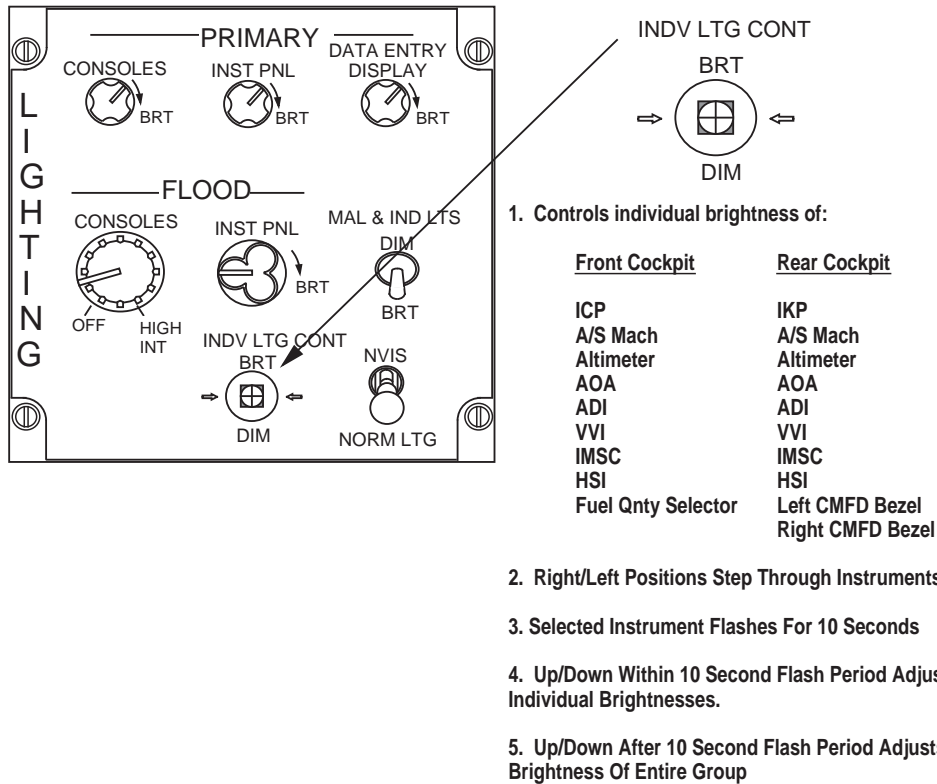

Figure 1-80 Individual Display Dimmer Controller (IDDC)
**Individual Display Dimmer Controller (IDDC).** The IDDC provides a five position Individual (INDIV) LTG CONT switch located on the interior lighting panels in the A-model cockpit and both cockpits of the B-model aircraft. The switch, which is spring loaded to the center (OFF) position, lets the pilot adjust the individual brightness of each of the primary flight instruments (Figure 1-80). Momentarily placing the switch